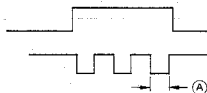

Fig. 8-7.
Memorise (A) length. (See Fig. 8-7.)